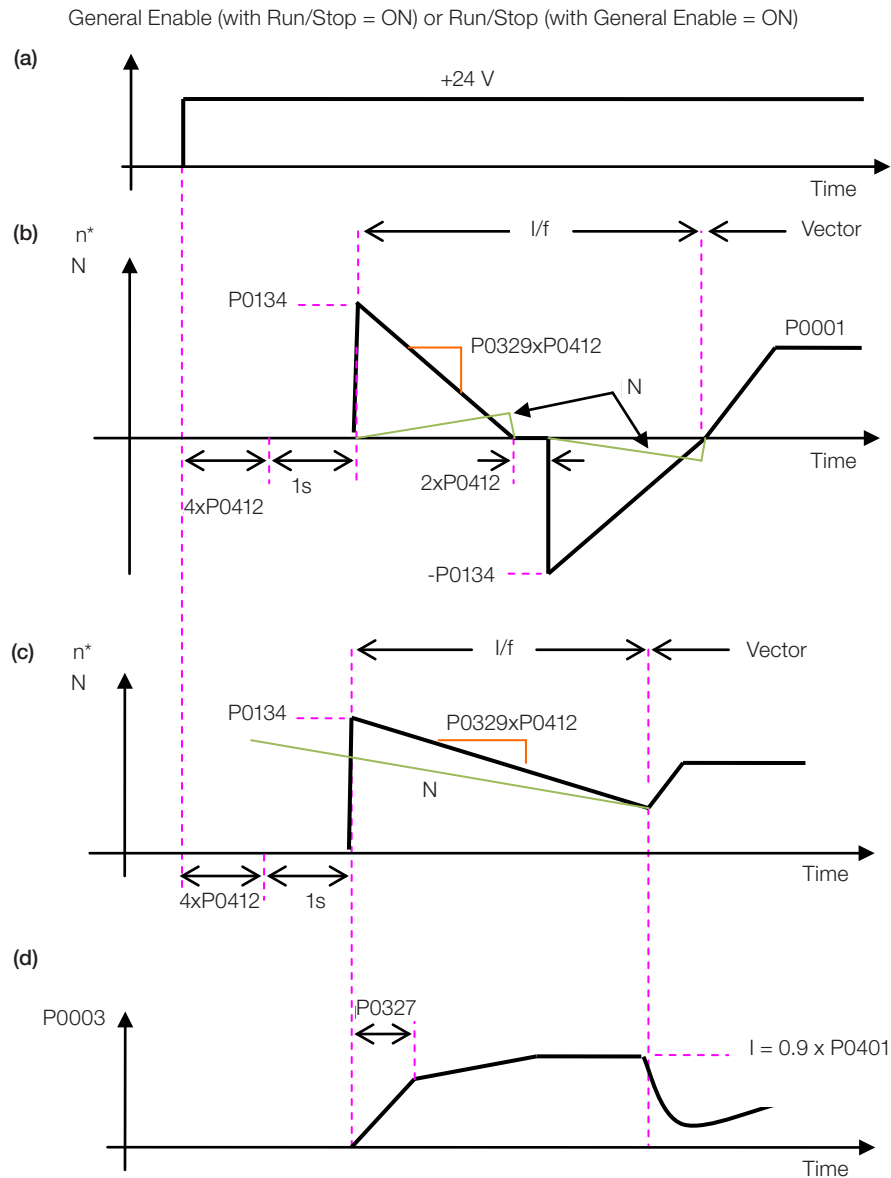

Figure 13.3: (a) to (d) Influence of P0327 and P0329 during Flying Start (P0202 = 4)
The behavior of the Flying Start function (FS) in the sensorless mode during acceleration and reacceleration can be understood from the Figure 13.3 on page 13-8.
The Figure 13.3 on page 13-8 shows the behavior of the speed reference when the FS function is started with stopped motor shaft and small P0329 value (not optimized).
The Figure 13.3 on page 13-8 shows the speed reference when the FS function is initiated with the motor shaft already running in the desired direction, or with stopped shaft and an already optimized P0329.